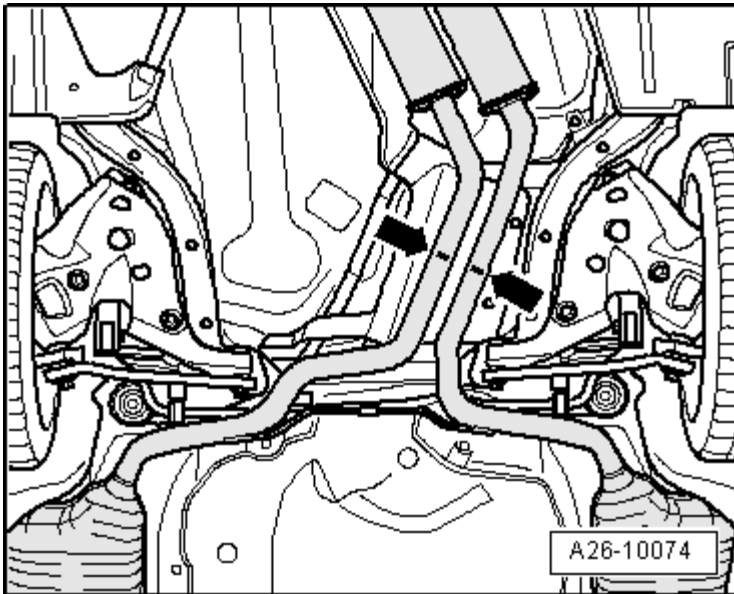
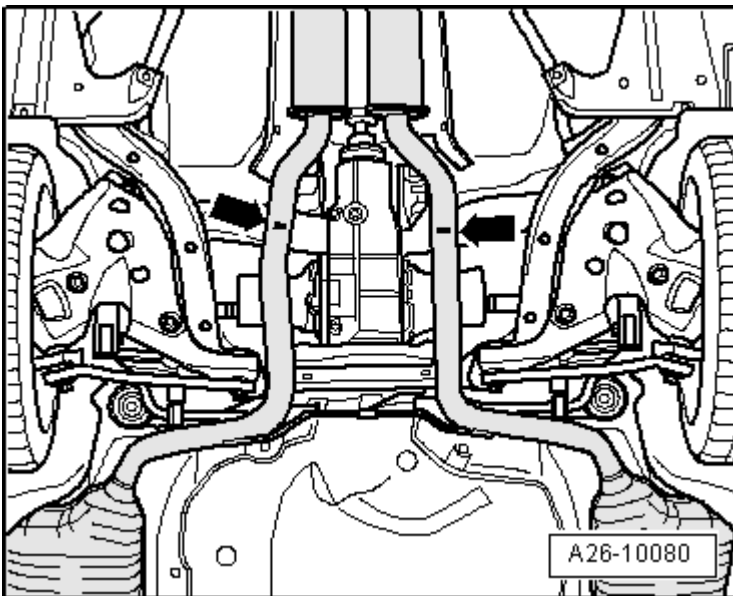

Fig. 512: Separating Exhaust Pipes At A Right Angle At Separating Point Using Chain Pipe Cutter VAS 6254
Fig. 515: Separating Exhaust Pipes At Separating Point Using Chain Pipe Cutter VAS 6254 At Right Angle
- Center muffler/rear muffler separating point: Vehicles with front-wheel drive --> **Fig. 512**, Vehicles with all-wheel drive --> **Fig. 515**